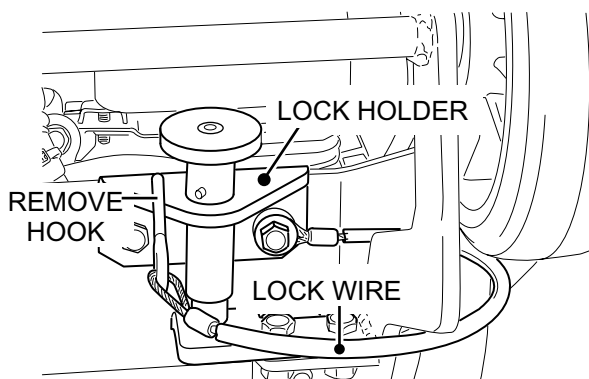

Figure 9. Removing Lock Wire
- Unhook the lock wire (item 6) hook from the lock holder. Reference Figure 9.